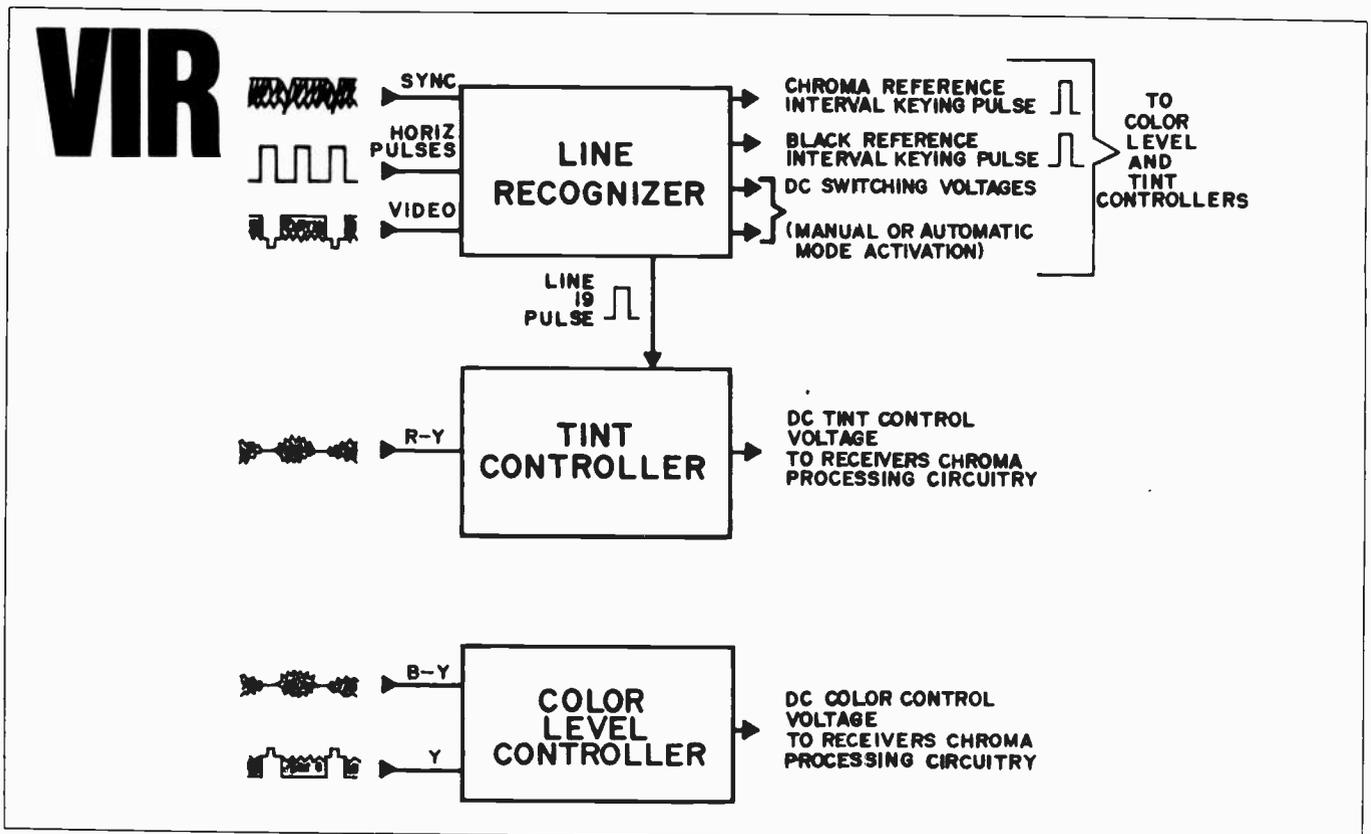

Fig. 2. Simplified block diagram of CGE's VIR decoder
All the circuitry associated with the VIR processing is on one board, and is rather interesting in operation. Three distinct functions are involved: (1) Recognizing the 19th line, producing pulses during the chroma reference and the black reference, detecting the presence of a VIR signal, and enabling or disabling the circuitry accordingly; (2) Sampling and comparing the appropriate portions of the R-Y signal and using these to control tint; and (3) Performing the same function on the blue drive signal to control colour. These functions are shown in Fig 2.